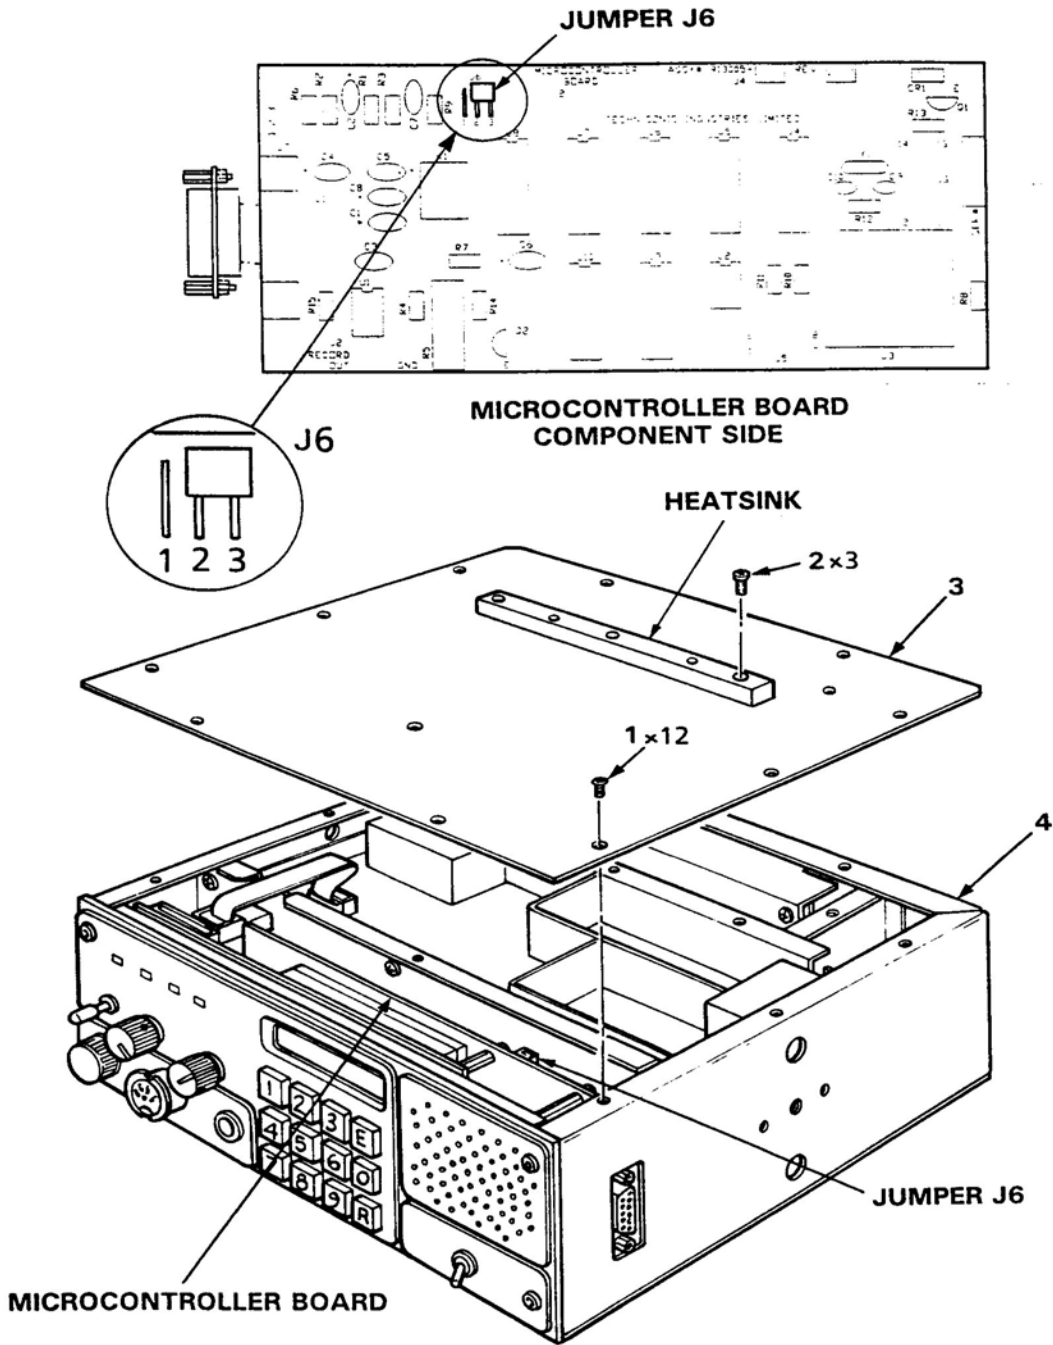

Figure 3.2 Fixed Channel Jumper Locations
- (1) Refer to Section 2 for Transceiver installation and removal procedures.
- (2) Remove and retain 15 flathead screws (1) securing transceiver top cover (3) to chassis (4). Refer to Figure 3.2.
- (3) Position Jumper J6 on pin 1 and pin 2 to disable keyboard entry of frequency selection and lock operating configuration.
- (4) Position Jumper J6 on pin 2 and pin 3 to enable keypad frequency selection and unlock operating configuration.
- (5) Position Transceiver Cover (3) on Chassis (4). Ensure that cover holes are aligned with threaded inserts.
- (6) Position 15 flathead screws (1) and through cover (3) holes into chassis (4) threaded inserts. Tighten screws with fingers.
- (7) Tighten screws securing Transceiver Cover (3) to Chassis (4).
- (8) Refer to section 2 for Transceiver installation and removal procedures.